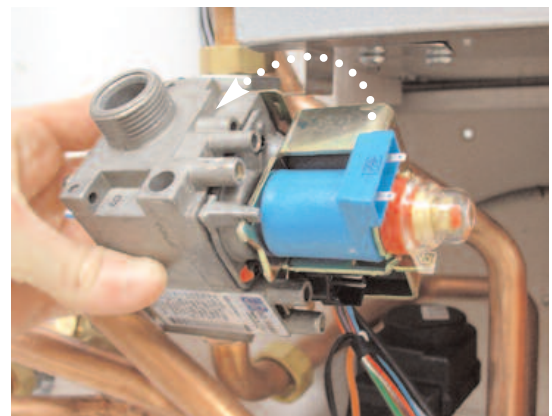

Fig. 18.46
5. Pull the gas valve toward you (see Fig.18.46);